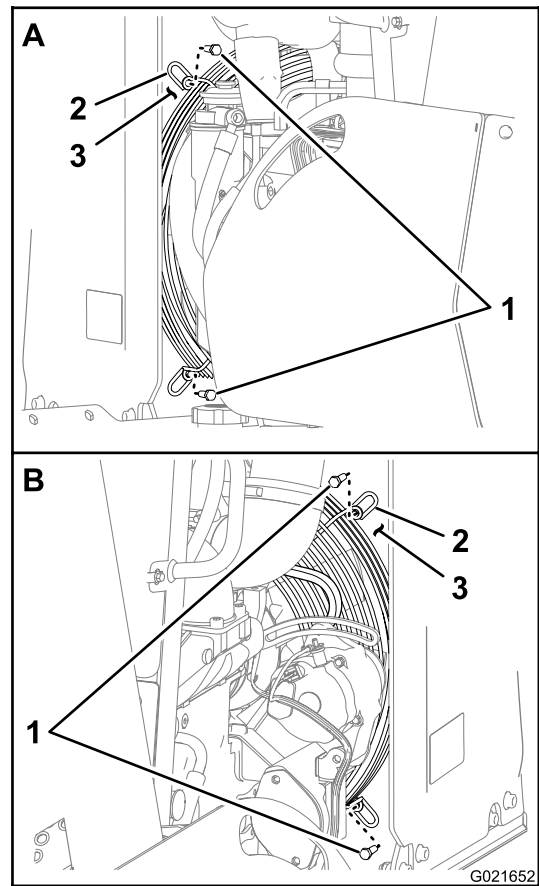

Figure 87
6. Remove the 4 bolts that secure the fan guard to the fan shroud (Figure 87).
7. Rotate the fan guard clockwise around the drive shaft of the fan until the opening in the guard is at the 6 o'clock position (Figure 87).
8. Secure the fan guard to the fan shroud (Figure 87).